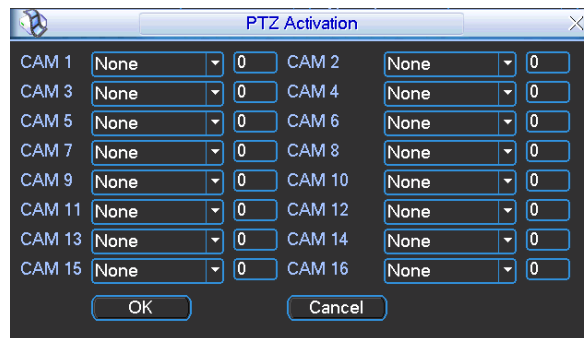
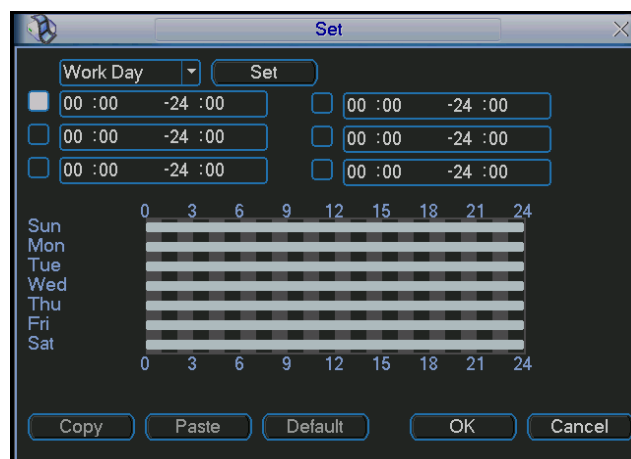

Figure 5-56
Figure 5-57
- ✧ In Figure 5-56, click “select” button, you can see an interface is shown as in Figure 5-57. Here you can set the activation operation such as preset tour, pattern and enable.